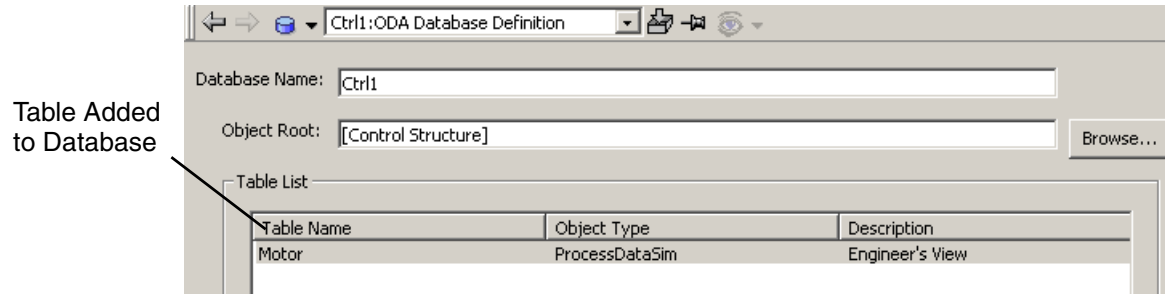

Figure 385. Table Added
- 2. Select a table, then click **Add Table**. The added table is listed immediately in the Database Definition view, Figure 385. The dialog remains open so more tables can be added.